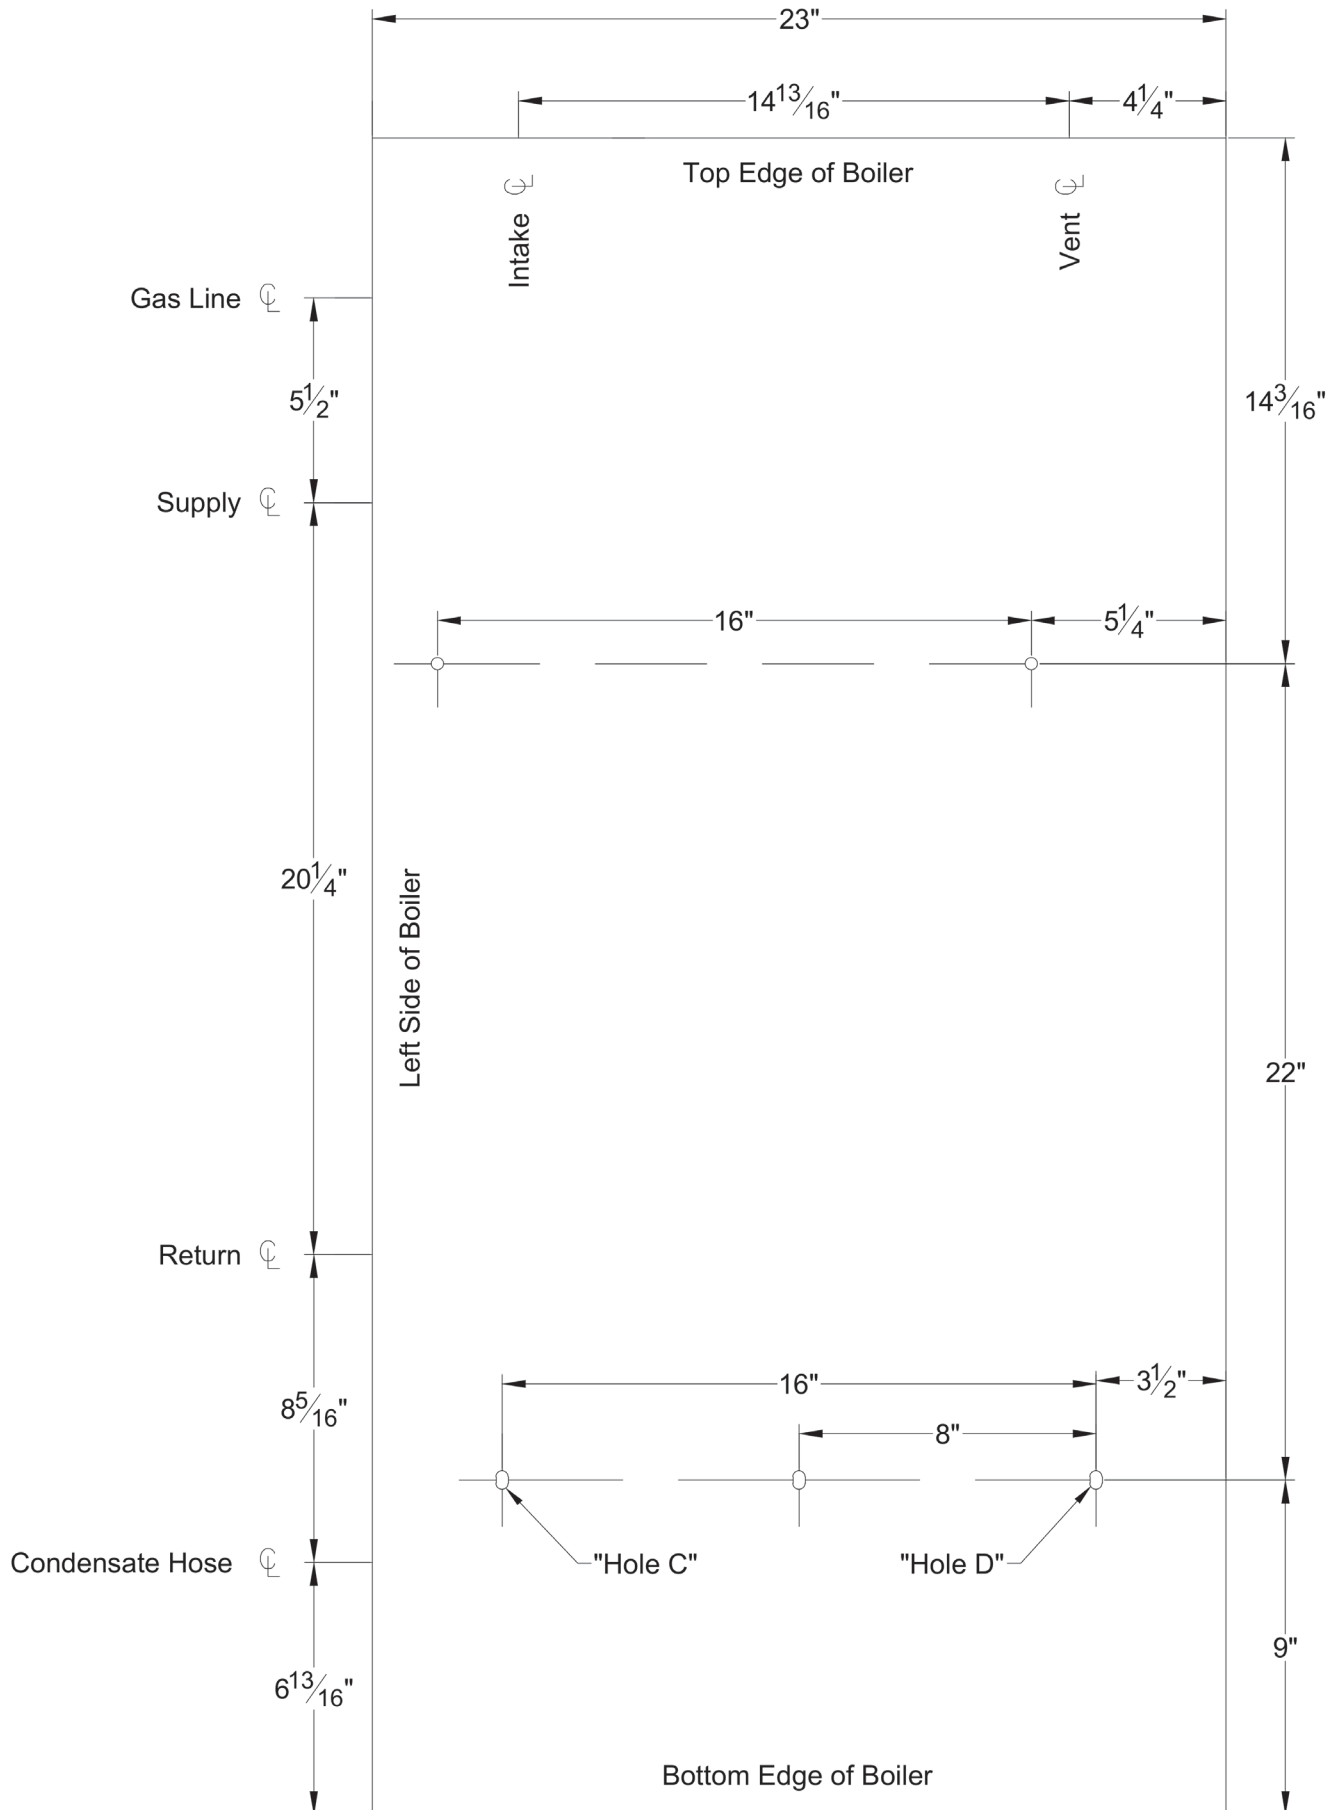

Figure 5.1 Wall Layout / Mounting Hole Location
5. Once a suitable location has been selected for the boiler, and any needed modifications have been made to the wall, use Figure 5.1 to locate holes "A" and "B". Make sure that the horizontal centerline of these holes is level. Holes "C" and "D" may also be drilled at this time or after the boiler is hung on the wall. If the $\frac{5}{16}$ " x 2" lag screws are used, drill $\frac{3}{16}$ " pilot holes.